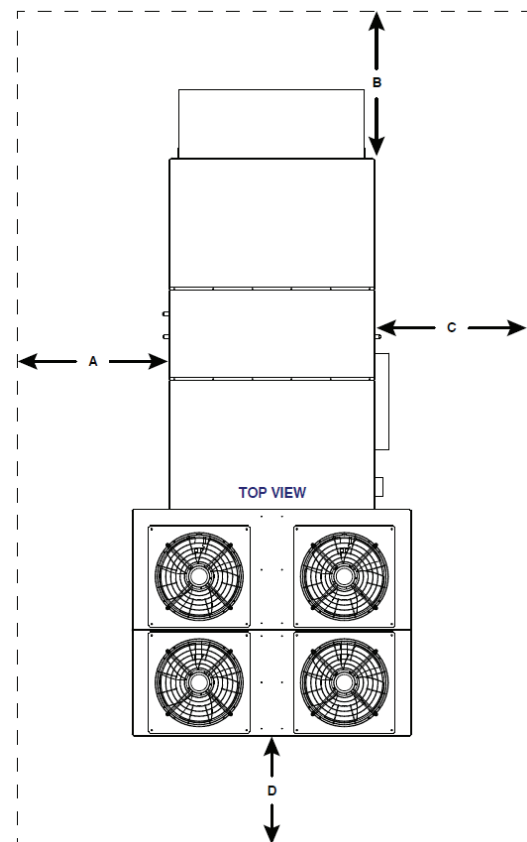

Fig. 2 – Required Clearances
- Do not locate adjacent unit condenser sections closer than 6 ft to one another to reduce the possibility of condenser air circulation. Follow the minimum required clearances listed in Service, Ventilation, and Required Clearance sections or in Fig. 2 and Table 3, whichever is greater.